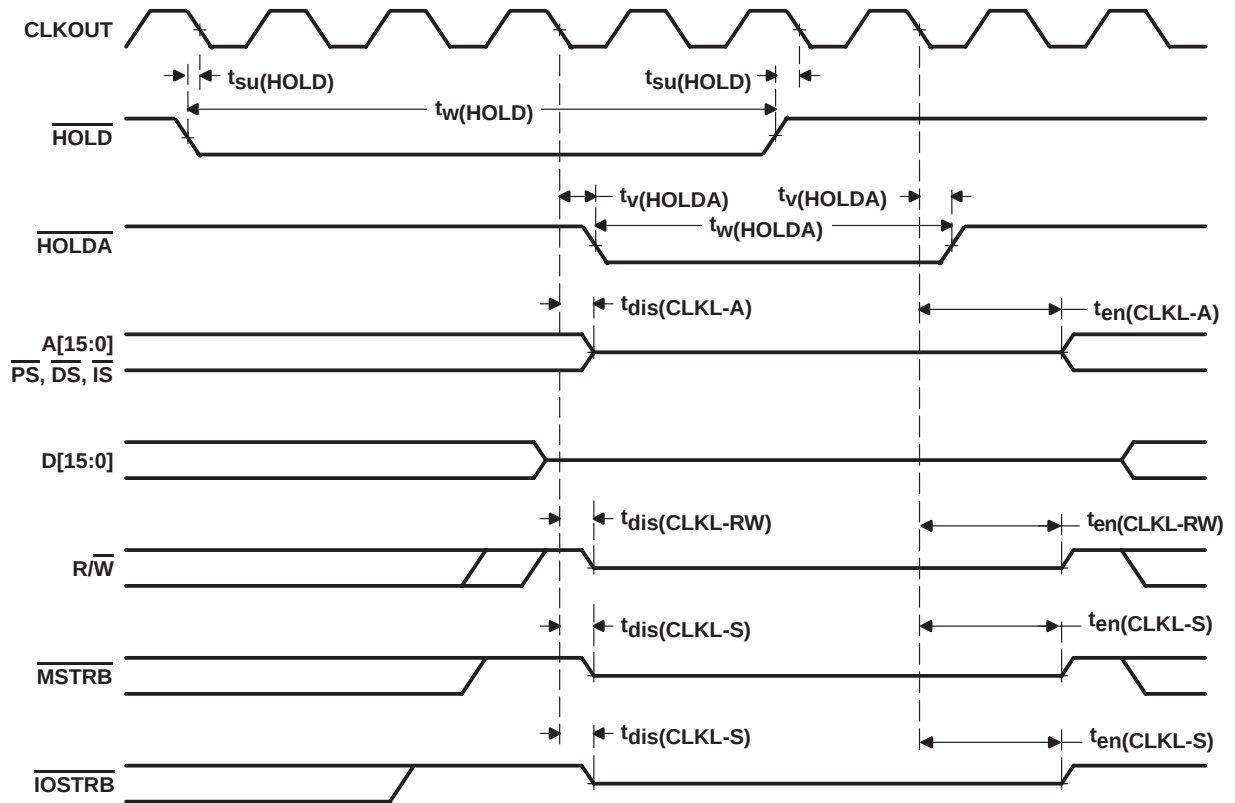

Figure 25.  $\overline{\text{HOLD}}$  and  $\overline{\text{HOLDA}}$  Timing (HM = 1)
**switching characteristics over recommended operating conditions for memory control signals and HOLDA [ $H = 0.5 t_{c(CO)}$ ] (see Figure 25)**
**timing requirements for  $\overline{HOLD}$  [ $H = 0.5 t_{c(CO)}$ ] (see Figure 25)**